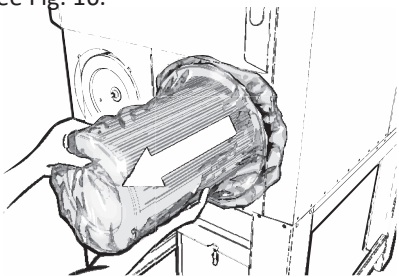

Fig. 16
- Pull out the cartridge filter in the plastic bag and seal the bag, see Fig. 16.